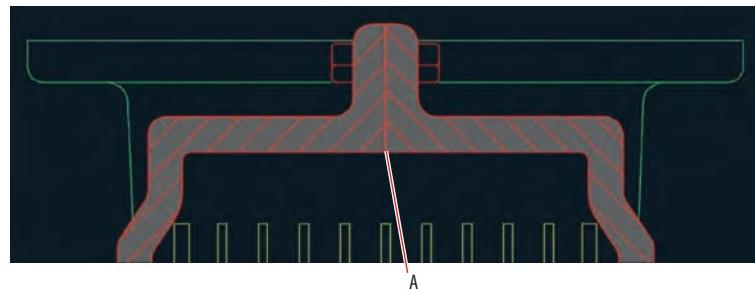

**FIGURE 8.15** Separating multiple bounded areas into multiple hatch objects
2. Check Separate Hatches in the Options group of the Hatch Edit dialog box (see Figure 8.15) and click OK.